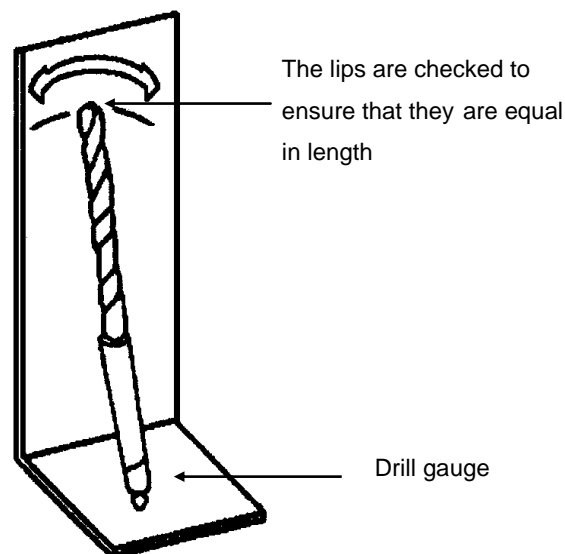

FIG 5.
C. Checking the lip lengths. Only applicable to a taper shank. (Fig 5)
- Touch the lip on the back face of the gauge, and scribe a line. See Fig 5.